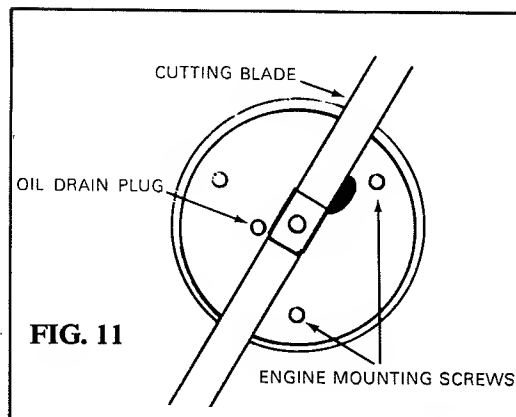

FIG. 11
2. Drain the gas tank and then turn the unit on its side with the carburetor side up and remove oil drain plug (See Fig. 11).